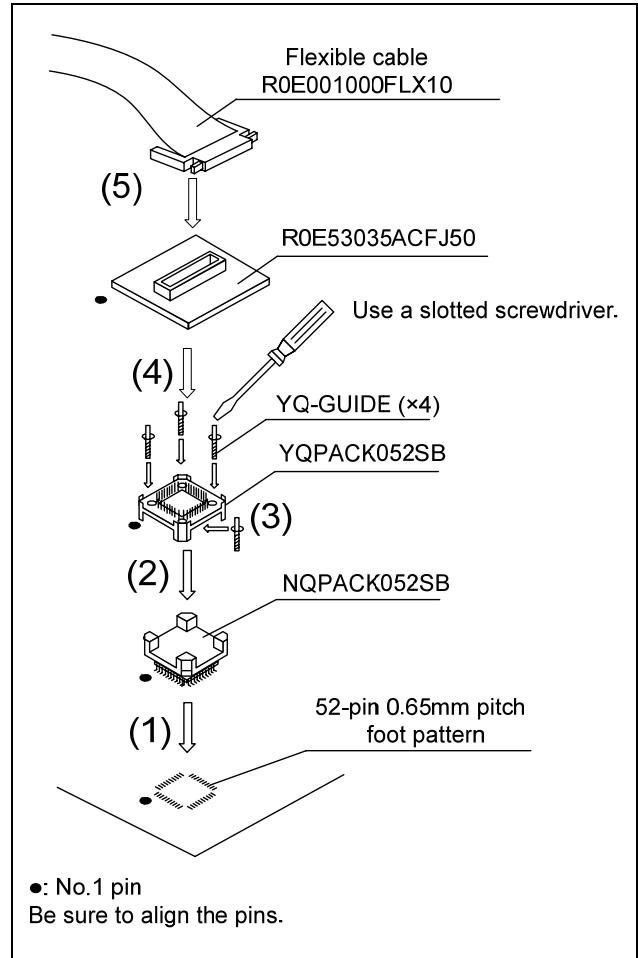

Figure 3 Connection procedure of the R0E53035ACFJ50
5. Connection Procedure (See Figure 3)